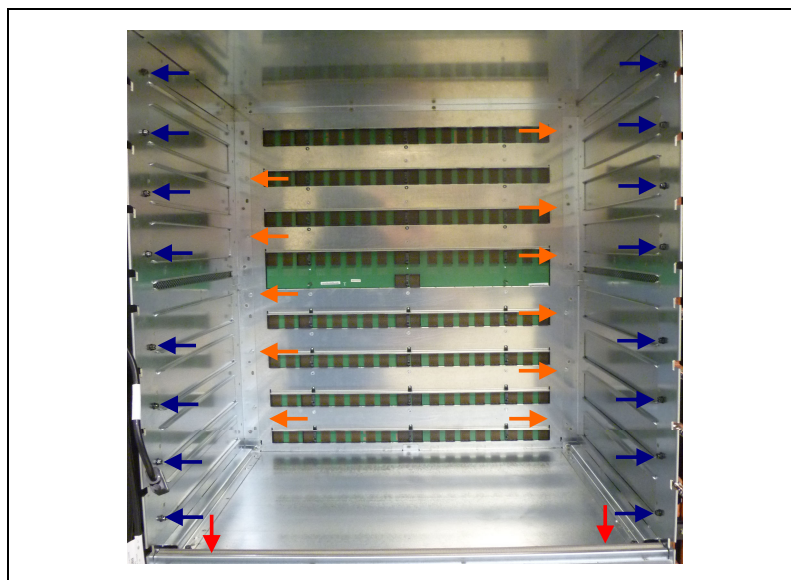

Figure 4-20 Midplane chassis screw locations (front)
- a. Remove the 16 M5 screws (blue arrows) from front sides of the chassis and the two M4 screws from the bottom of the cage (red arrows) with an 8 mm driver. See Figure 4-20.
- b. Remove the eleven 7 mm screws (orange arrows) on the back of the chassis. See Figure 4-20.
11. Remove the blue, red, and orange screws for the rear card cage. Figure 4-20 on page 85 shows the front chassis, but the locations are the same.